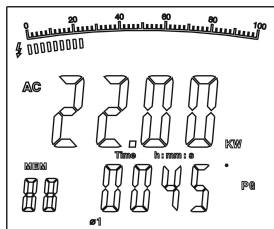

**Figure 6**
3. Connecting method (see figure 6, 7, 8):
- When measuring 3 phase 4 wires, connecting the Meter as figure 6.
In figure 6  $\Sigma W = W1 + W2 + W3$ .
3. The connecting method of 3 phases 4 wires or 3 phases 3 wires, refer to figure 6 and 15
3. The connecting method of 3 phase 4 wires and 3 phases 3 wires, see figure 6 and 15